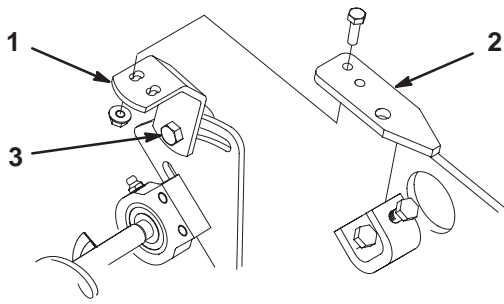

Figure 7
- Secure the support bracket to the underside of the cutting unit tab with 2 hex head screws (M6) and locknuts. Tighten the screws (Fig. 7).
15. While holding each hex extension with a wrench, tighten each hex head screw to 60 ft.-lb. Tighten the cap screw and flange nut securing the bearing adjustment plate to the support bracket (Fig. 7). Make sure that the brush to roller contact is not disturbed.